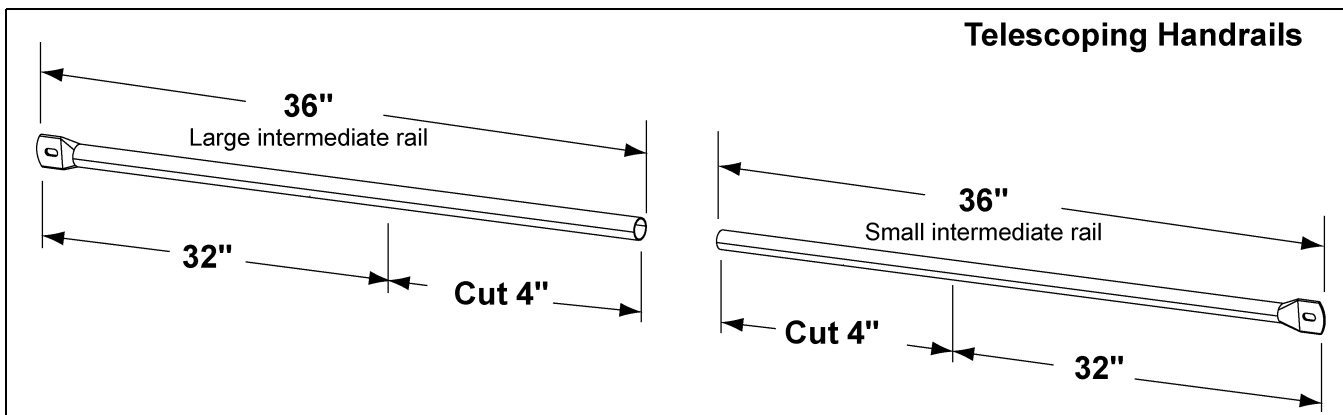

Figure 8T 32" Telescoping Handrail
3. Trim two (2) large and two (2) small rails by 4" each so remaining length of each rail, both small and large, is 32". (See Figure 8T.)